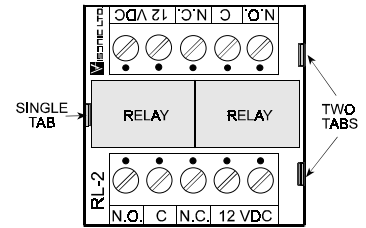

Figure 1. PCB Layout
3.1 Mechanical Mounting (Fig. 1)